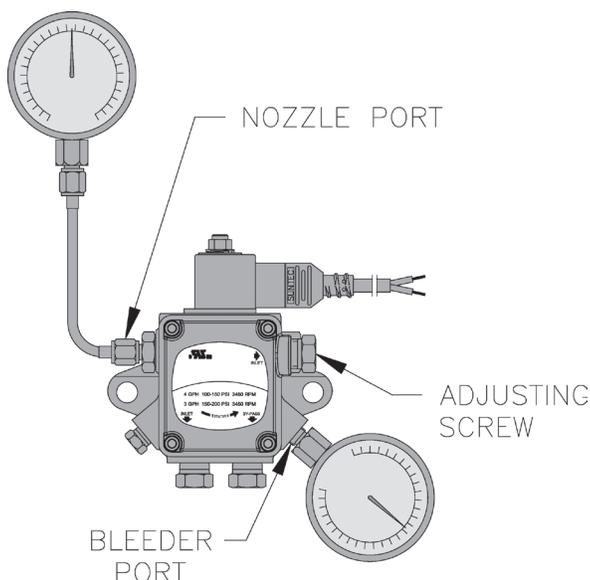

Figure 7-3: Adjusting Fuel Pump Pressure
- a. When checking a fuel unit's operating pressure, a reliable pressure gauge may be installed in either the bleeder port or the nozzle port. For Beckett burner refer to Figure 7-3.